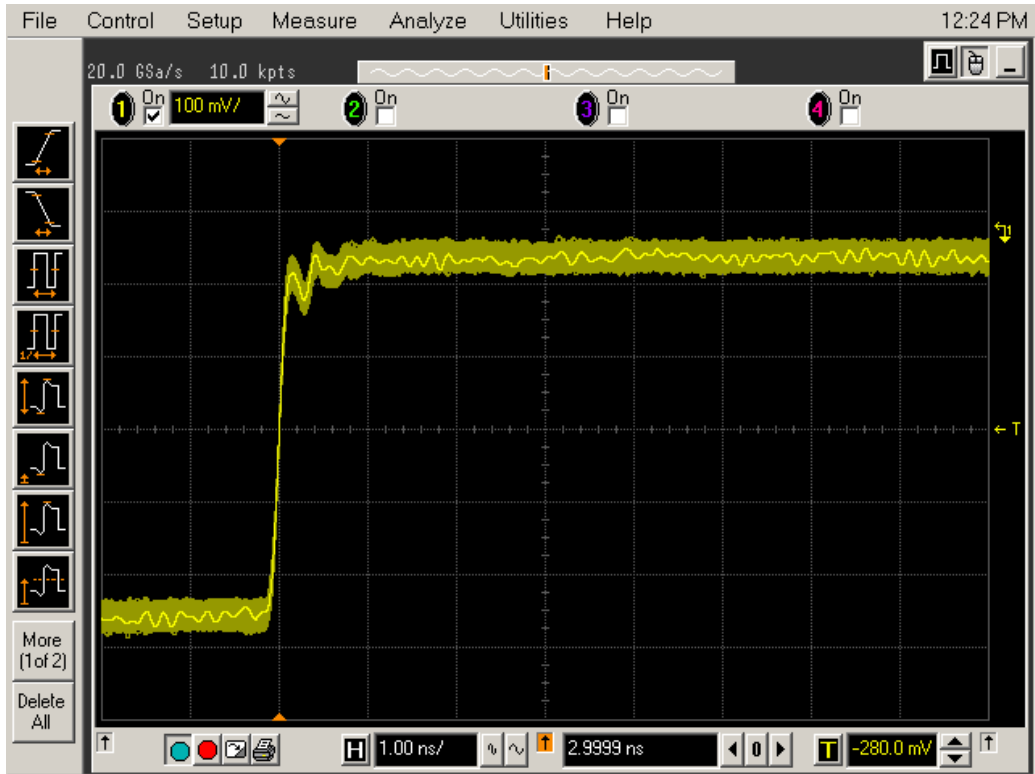

Figure 18 Good Connection Waveform Example
- 4 Set the horizontal position to approximately 3 ns. You should see a waveform similar to that in Figure 18 below.